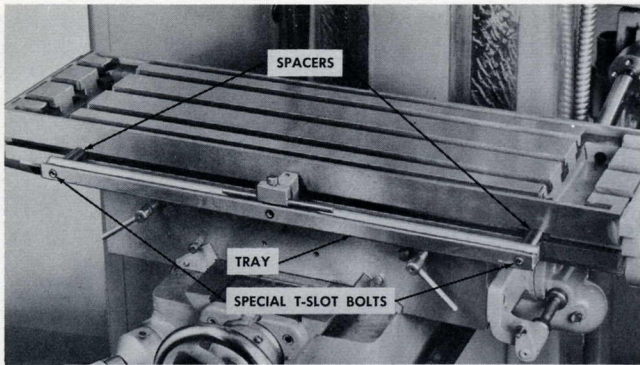

Fig. 34. Measuring tray attached to table.
- B. Remove regular stops from T-slot side of table and replace them with long measuring tray. See Fig. 34. Use two spacers ($1\frac{1}{2}''$ long) to hold tray away from table.